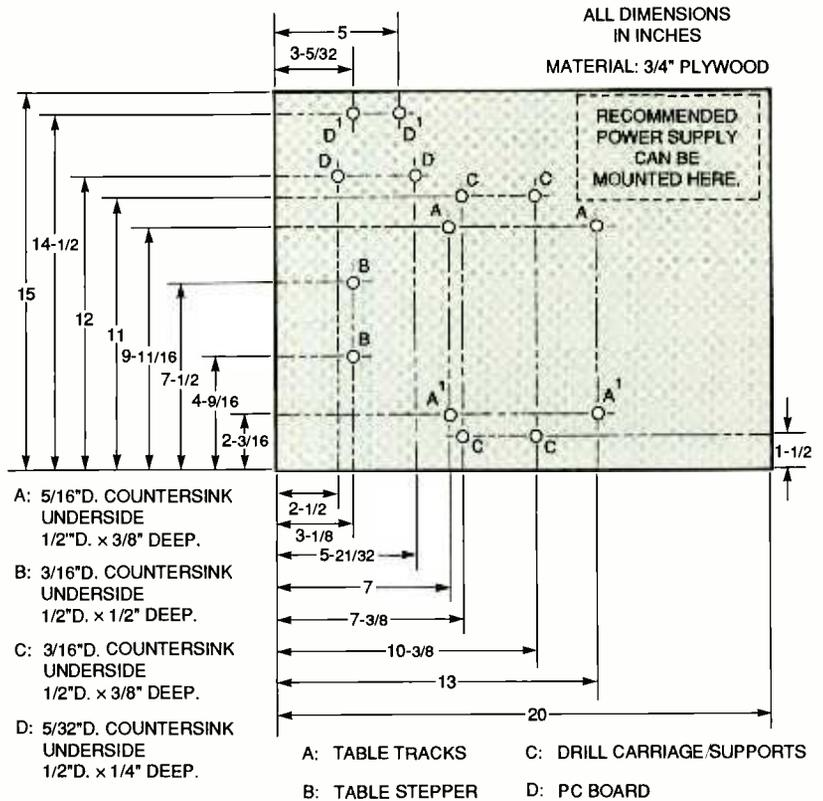
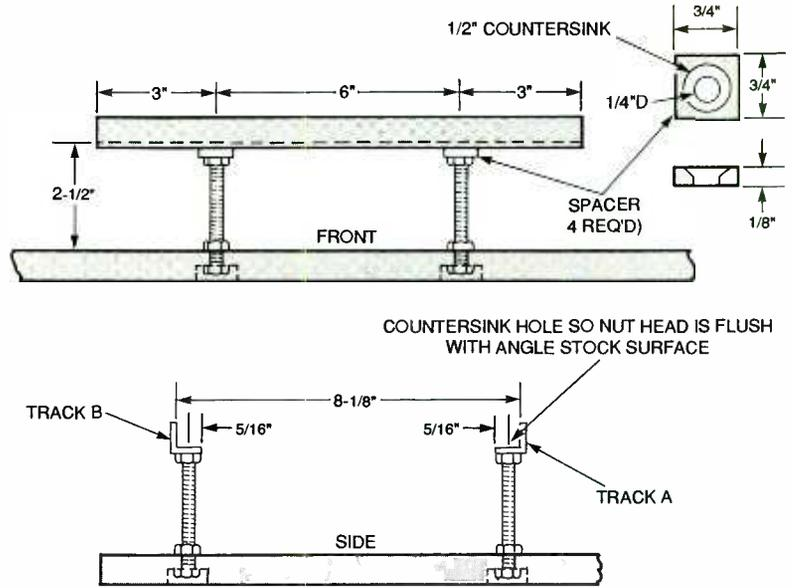

Fig. 4. The base plate has 14 holes in four groups (A, B, C, and D). Be sure to countersink all holes.
Fig. 6. Fabricate the table tracks from 12-inch lengths of  $\frac{3}{4}$ -inch aluminum angle stock.
**The Base.** As shown in Fig. 4, the base is a piece of plywood (or similar material) measuring  $15 \times 20 \times \frac{3}{4}$  inches. Drill 14 holes in the base, and countersink all 14 from the underside. That prevents mounting nuts from protruding from the bottom of the base.
Note in Fig. 4 that there are four groups of holes, denoted A, B, C, and D. Attach four threaded spacers to the D holes with 6-32 screws. Then attach the PC board to the spacers with 6-32 screws. Note that two of the screws will go through both J1 and the PC board. Also, mount the power supply in the indicated position at this time. For our prototype, we mounted the PC board and power transformer to a  $4 \times 3\frac{1}{2} \times \frac{1}{4}$ -inch scrap of plywood, and attached it to the base using #8  $\times \frac{3}{4}$ -inch sheet-metal screws.
**Table and Tracks.** Cut the table tracks from  $\frac{3}{4} \times \frac{3}{4} \times \frac{1}{8}$ -inch aluminum angle stock. Cut two 12-inch lengths, then locate and drill four  $\frac{1}{4}$ -inch holes as shown in Fig. 6. Countersink the holes with a  $\frac{1}{2}$ -inch drill bit so that the flat heads of the machine
Now form four spacers from  $\frac{3}{4}$ -inch flat aluminum stock, also as shown in Fig. 6. Pass a  $\frac{1}{4}$ -20  $\times$  3-inch machine screw through each hole, place one spacer on each screw (countersunk side first), and then thread two  $\frac{1}{4}$ -inch nuts onto each screw. Tighten the first nut on each screw to secure the screw to the track, making sure each screw is perpendicular to the track. Thread the remaining nut on each screw about  $1\frac{1}{2}$ -inch above the bottom of the screw.
Insert the screws into the A holes on the base (Fig. 4). Then, as shown in Fig. 6, thread another nut onto each screw and adjust the nut so that the inside horizontal surface of each track (on which the Table will rest) is exactly  $2\frac{1}{2}$ -inch above the base. Secure the tracks to the base by tightening the top nuts. Adjust the tracks so that the inside vertical surfaces are  $8\frac{1}{8}$ -inch apart.
After the glue dries, place the base on the table tracks with the block resting over Track A (see Fig. 6). Place the table guide on the block so it overlaps Track A. Push the block flush with the inside vertical surface of Track A. Place a piece of paper or a business card against Track A's outer surface